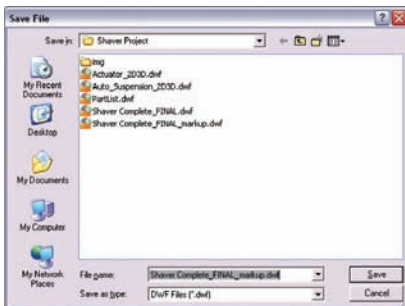

Figure 9.2
3. Type in a new name, such as “YourNameMarkup.” (Figure 9.2)